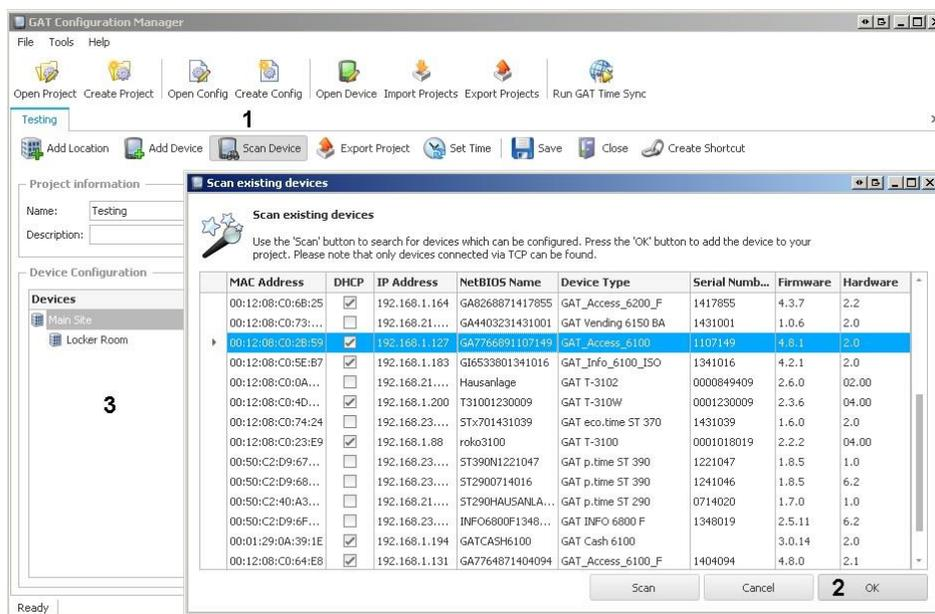

Figure 4.18 - Open a project for device configuration
- Once a project is established, click on the “Scan Device” icon (1 in Figure 4.18).
- The selected device is highlighted in blue as shown in Figure 4.18.
- Click on “OK” (2 in Figure 4.18).
- The selected device is added to the “Devices” list (3 in Figure 4.18).